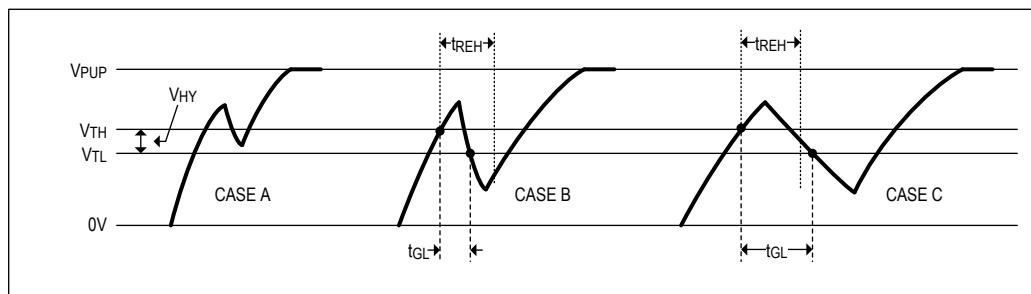

Figure 8. Noise Suppression Scheme
- On the low-to-high transition, if the line rises above  $V_{TH}$  but does not go below  $V_{TL}$ , the glitch is filtered (Figure 8, Case A.)
- The rising edge hold-off delay (nominally 100ns),  $t_{REH}$ , filters glitches that go below  $V_{TL}$  before  $t_{REH}$  has expired (Figure 8, Case B.) Effectively, the device does not see the initial rise, and the  $t_{REH}$  delay resets when the line goes below  $V_{TL}$ .
- If the line goes below  $V_{TL}$  after  $t_{REH}$  has expired, the glitch is not filtered and is taken as the beginning of a new time slot (Figure 8, Case C.)